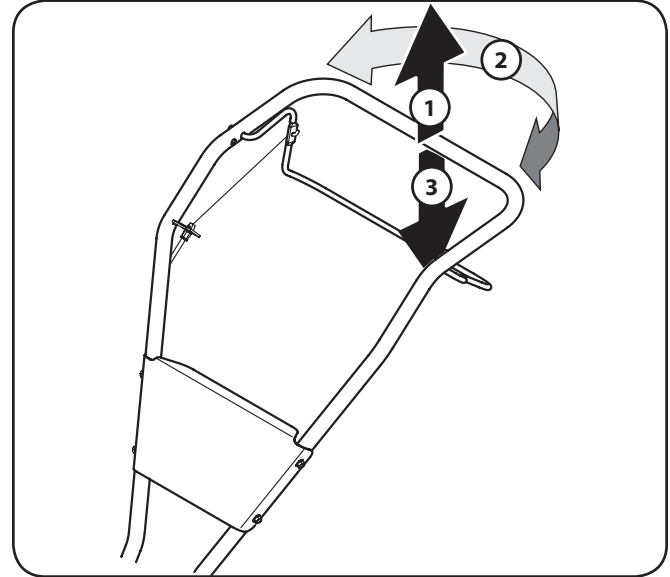

Figure 5-3
1. To begin a turn, lift the handlebars until the tines are out of the ground and the engine and tines are balanced over the wheels. See Figure 5-3.
2. With the tiller balanced, push sideways on the handlebar to steer in the direction of the turn. See Figure 5-3.
3. After turning, slowly lower the tines into the soil to resume tilling. See Figure 5-3.